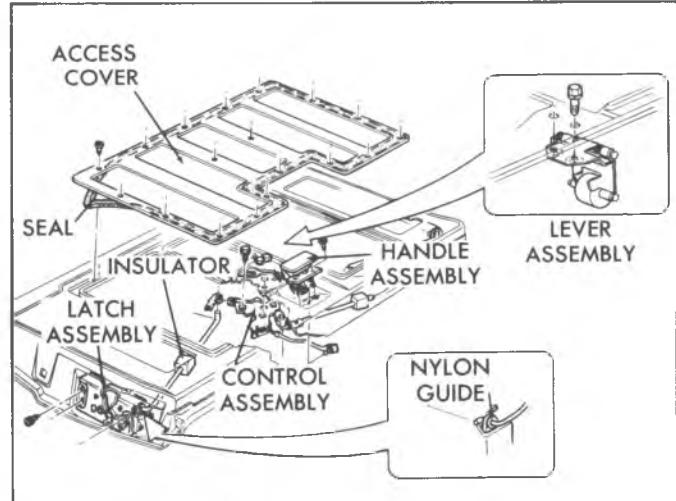

Fig. 52—Latch and Remote Controls—(06 Only)
1. Remove access cover shown in figure 52, to gain access to interior components.
12. Remove side latch bolts and remove side latches with control rods. See figure 52.